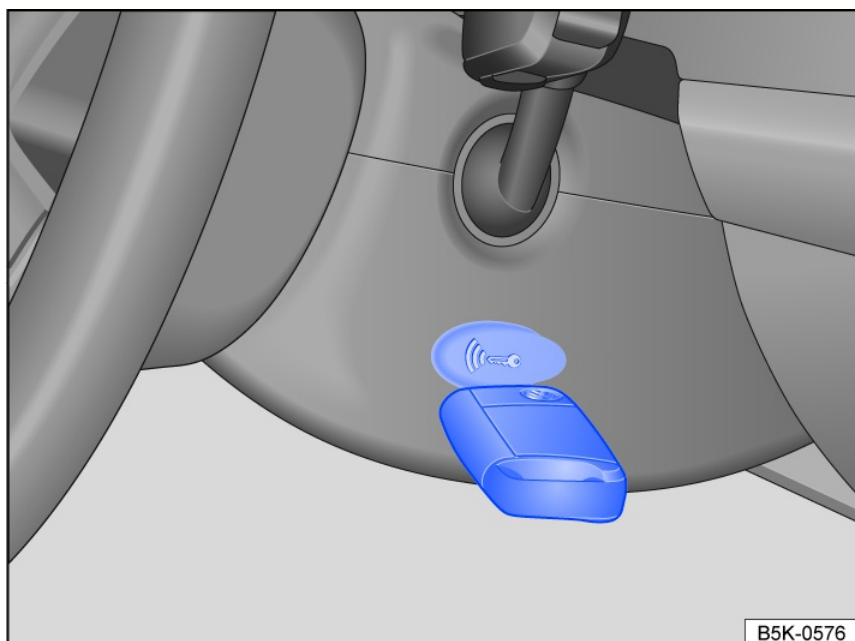

Fig. 98 On the right side of the steering column: emergency start function on vehicles with Keyless Access with push-button start.
- Hold the vehicle key on the right side of the steering column trim panel immediately after pressing the starter button fig. 98.